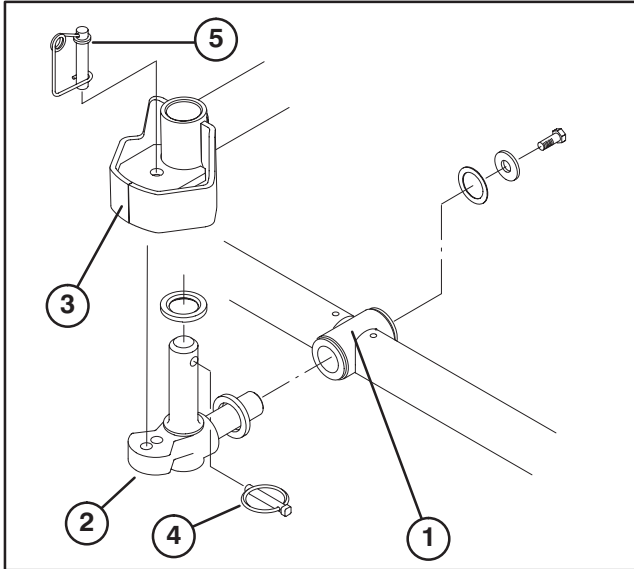

Figure 6
6. Insert a thrust washer onto horizontal shaft of pivot knuckle as shown in figure 6.
7. Insert the horizontal shaft of the pivot knuckle into the mounting tube of the carrier frame (Fig. 6).
8. Secure pivot knuckle to carrier frame with a thrust washer, flat washer and a flange head capscrew (Fig. 6).
9. Insert a thrust washer onto vertical shaft of pivot knuckle (Fig. 6).
10. If removed, Insert the vertical shaft of the pivot knuckle into lift arm pivot hub (Fig. 6). Guide the pivot knuckle in place between the two rubber centering bumpers in the under side of the lift arm steering plate.
11. Insert the lynch pin into the cross hole on the pivot knuckle shaft (Fig. 6).
NOTE: If fixed cutting unit position is required, insert steering pin into pivot knuckle mounting hole (Fig. 6). Hook spring wire around bottom of steering pin.